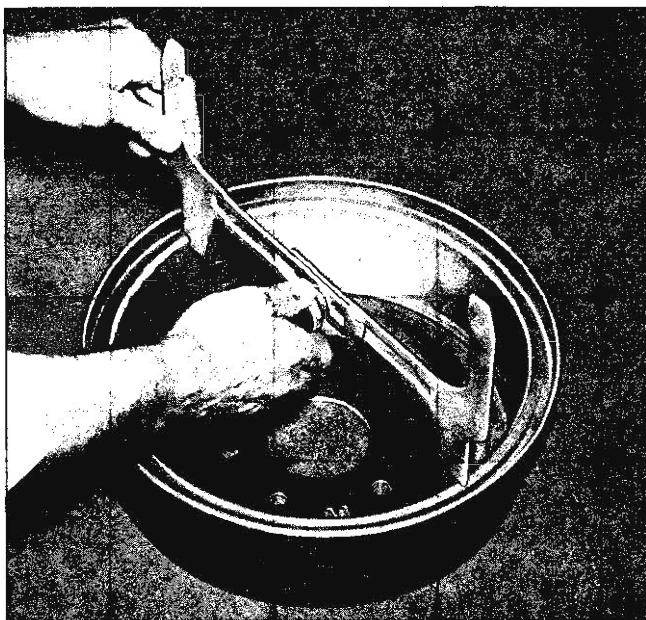

Fig. 13—Using Drum-to-Brake Shoe Clearance Gauge
- a. Use special Tool J-21177; Drum-to-Brake Shoe Clearance Gauge, to check the diameter of the brake drum inner surface (fig. 13).